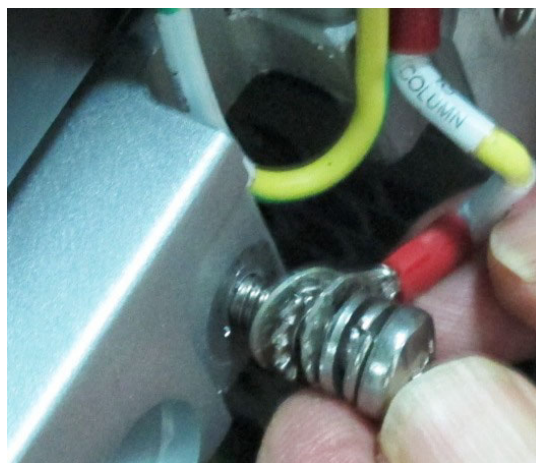

Figure 8-168 Disconnecting the Ground Cable
2.) Disconnect the Ground cable - Figure 8-168.